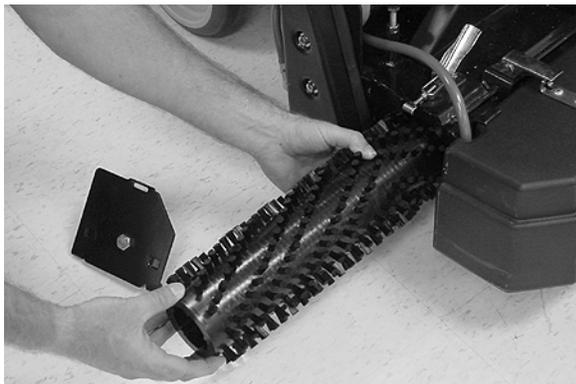

FIG. 33
- Remove any entangled carpet fibers and debris from the brushes (Figure 33). Replace brushes if worn. To determine when to replace worn brushes observe the brush pressure meter.